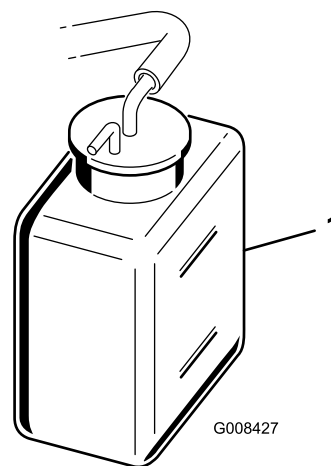

Figure 28
2. Check the coolant level (Figure 28). It should be between the lines on the reserve tank when the engine is cold.